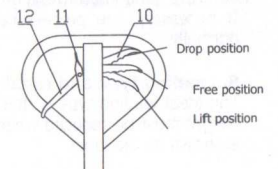

Fig. 5
4.1 After the truck is assembled, try to rock the hand grip and operate different positions of control handle knob 10 to examine the lifting, free position and dropping and check that whether the different positions are normal or not. See fig 5.
- 5.3 See fig 5, when hand knob 10 is placed on the lift position, the truck will be in a state of lift. At this time, if you rock the hand grip, the truck will be lifted.
- 5.4 See fig 5, when hand knob 10 is placed on the free position, the truck will travel. At this time, if you rock the hand grip, the truck will neither lift nor drop. Then, you can use the truck to move the cargo.
- 5.5 See fig 5, when the hand knob 10 is placed on the drop position, truck forks will drop. At this time, the truck forks will drop automatically.
- 5.6 See fig 5, when the hand knob 12 is placed below, the truck will be in a state of free walking.
- 5.7 See fig 5, when the hand knob 12 is placed above, the truck will be in a state of brake.
- 5.8 See fig 5, hand knob 11 is used for release brake.